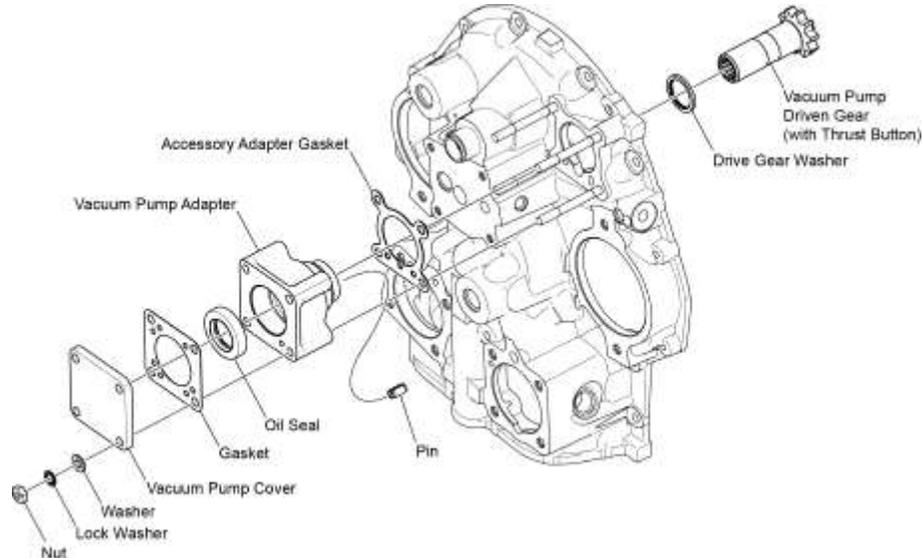

Figure 2
- (1) Remove the four nuts, lock washers, and washers from the vacuum pump adapter or vacuum pump cover (Figure 2). Discard the lock washers.
- (1) Apply engine oil mixture to the vacuum pump driven gear.
- (2) Install a new pin in the vacuum pump adapter.
- (3) Install the vacuum pump driven gear (with the thrust button already installed inside the geared end) and drive gear washer in the vacuum pump adapter (Figure 2).
- (4) Install a new accessory adapter gasket on the vacuum pump adapter in the correct orientation as shown in Figure 2.
- (5) Install the vacuum pump adapter with a new oil seal on the accessory housing as shown in Figure 2.
- (6) Install the vacuum pump or vacuum pump cover with a new gasket on the vacuum pump adapter with four nuts, four new lock washers and four washers. Torque the nuts to 96 to 108 in.-lb (11 to 12 Nm).